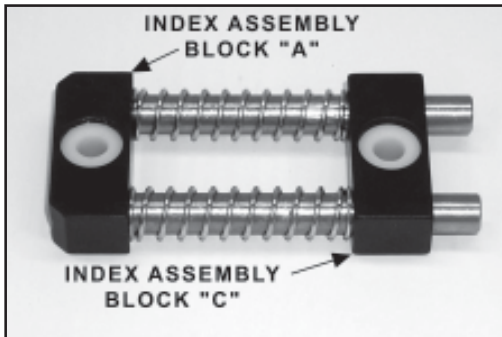

FIGURE 50
- 4- Holding onto the Index Assembly Block “A”, pull the Index Assembly Block “C” off the guide shafts (Figure 50).